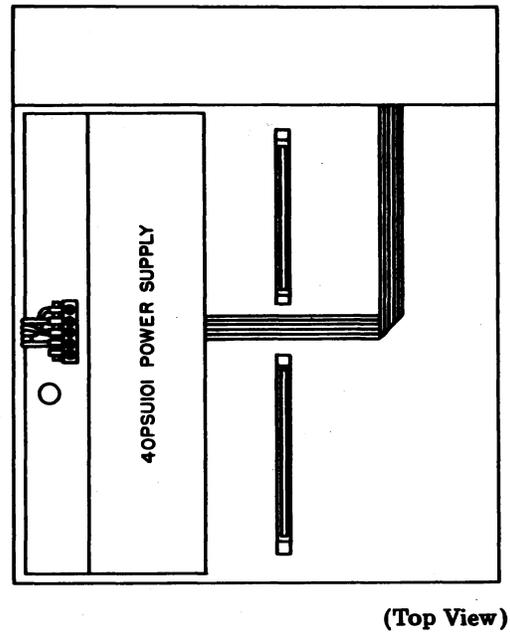

Fig. 14—RO Modification Cable Routing
4.20 Reassemble the filter cover to the filter assembly and route the flat 402172 cable assembly between the controller card connectors as shown in Fig. 14.